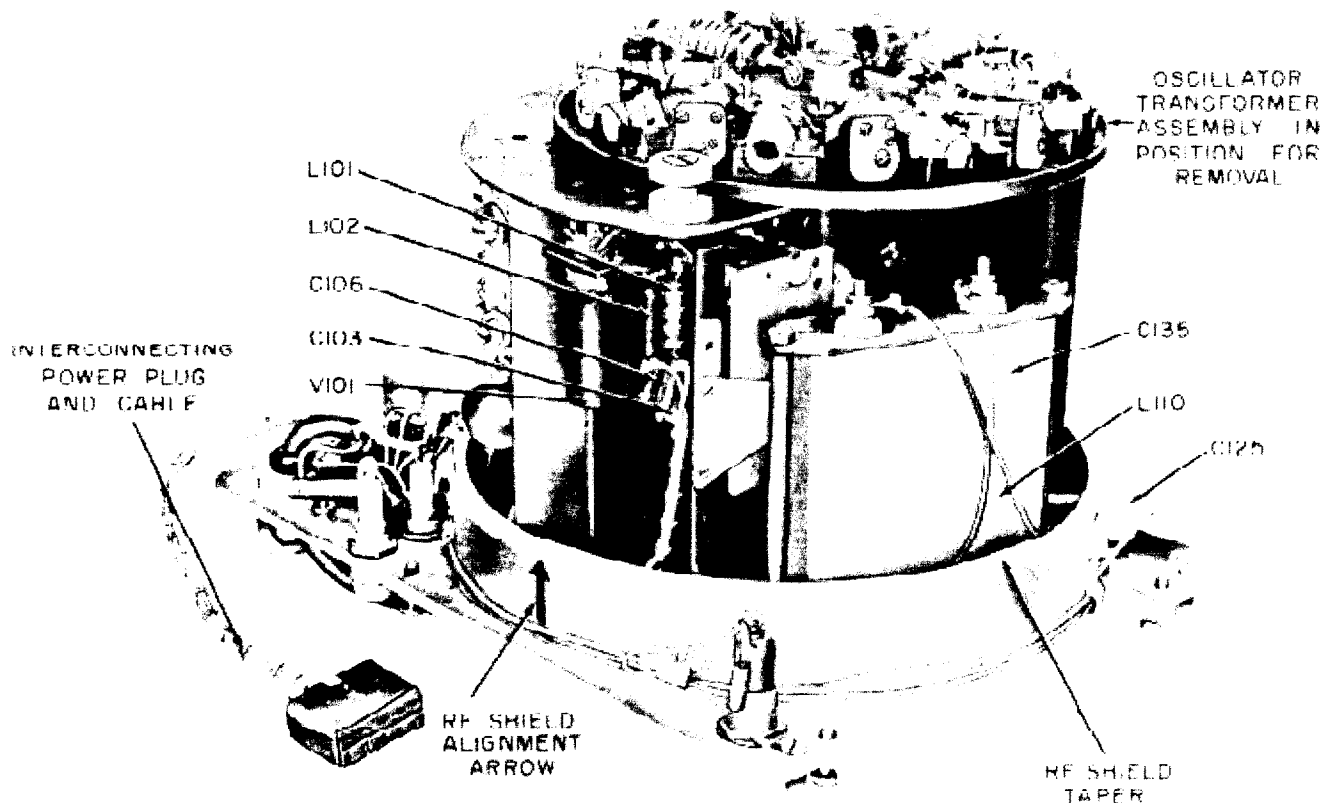

Figure 7-6. Bridge Assembly Components
When replacing the RF shield assembly be sure the red indicator line on the RF shield assembly lines up with red arrow on the front panel casting. The arrow is located below the RF oscillator tube V101. The RF shield assembly must not be tilted and the shield should fit snugly in the taper provided in the front panel. (See figure 7-6.) Failure to properly position the shield will prevent reassembly.
### 12. REMOVAL OF OSCILLATOR TRANSFORMER ASSEMBLY. (See figures 7-6 and 7-7.)
(1) Remove the signal generator from its case. See paragraph 7.
(2) Remove RF shield assembly. See paragraph 8.
(3) Position the signal generator chassis face down and allow it to rest on the front panel handles.
(4) Rotate turret assembly so that desired oscillator sector assembly has its trimmer capacitor approximately above feed-thru capacitor C125. See figures 7-6 and 7-7.
(5) Remove the two holding nuts and catch two holding bolts which will drop down.
(6) Lift out oscillator sector assembly.
(See figures 7-6, 7-7, 7-8 and 7-9.)